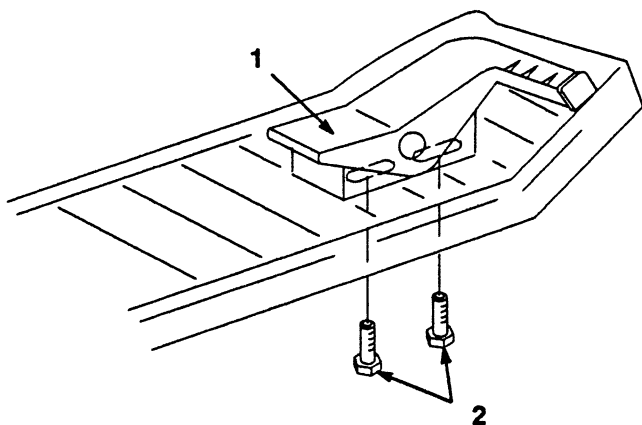

Figure 8
After adjusting the hydro neutral position it is necessary to check the traction control pedal. While pressing the control pedal full forward and full reverse it must not contact the footrest pad before hitting the stop(s) at the transaxle (Fig. 8).
2. Loosen the capscrews below the right footrest. Slide the pedal in the slots away from the direction that made contact with the footrest (Fig. 8).